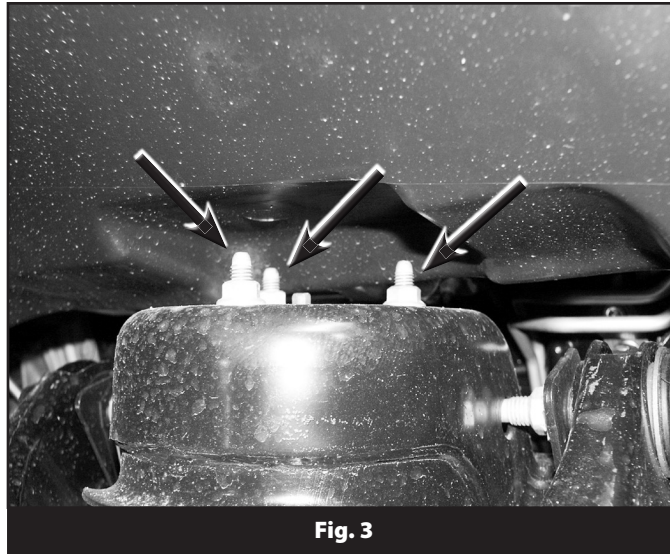

Fig. 3
7. Remove the nuts from the three upper mounting studs holding the strut to the frame (Fig 3). DO NOT remove the center strut nut.